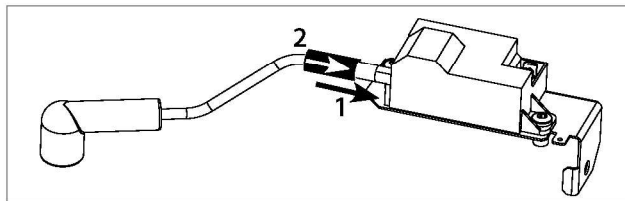

Fig. 5 - Prestige Solo & Excellence - Ignition Wire Connection
3. Connect the ignition wire to the spark generator (1). Slide the protection sleeve (2) over the connector (See Fig. 5).